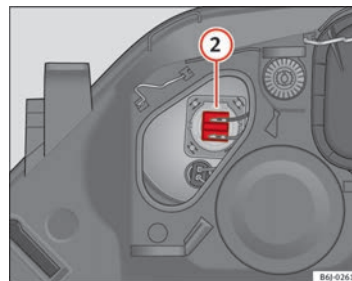

Fig. 160 Main beam headlights
- Remove connector ⇒ Fig. 160 ② by pulling outward.